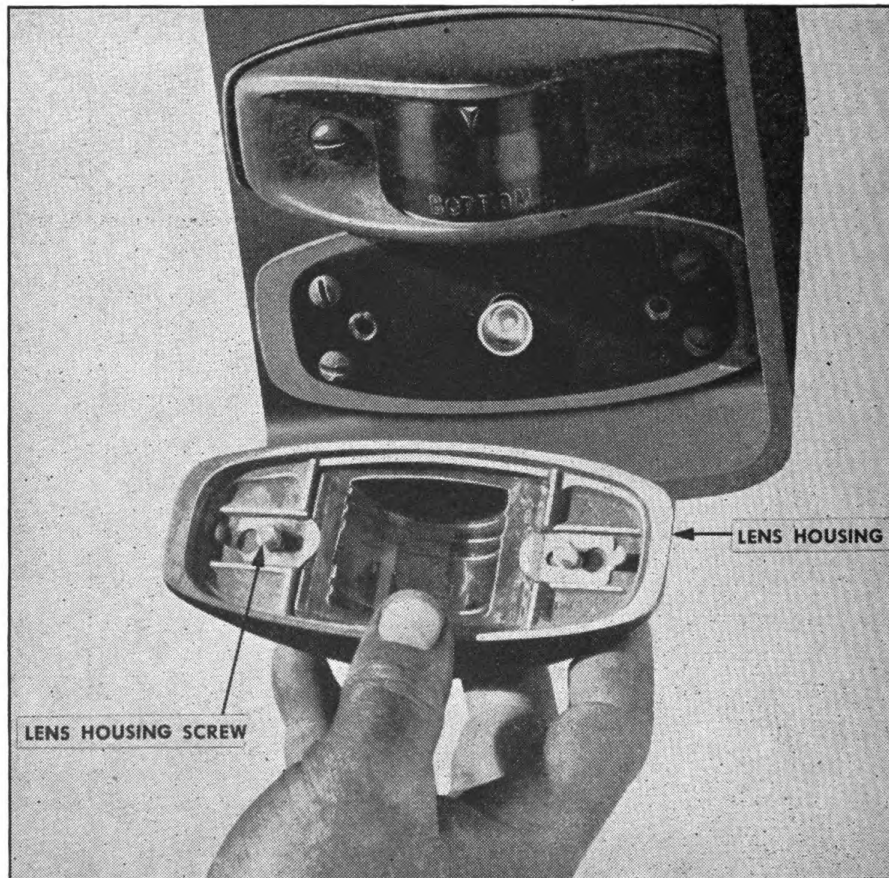

FIGURE 54. CLEARANCE LIGHTS—DISASSEMBLY, STEP 1.
5. CLEARANCE LIGHTS DISASSEMBLY.—*a.* Turn the two screws holding lens housing to light assembly in a counter-clockwise direction until housing is free of assembly (Fig. 54).